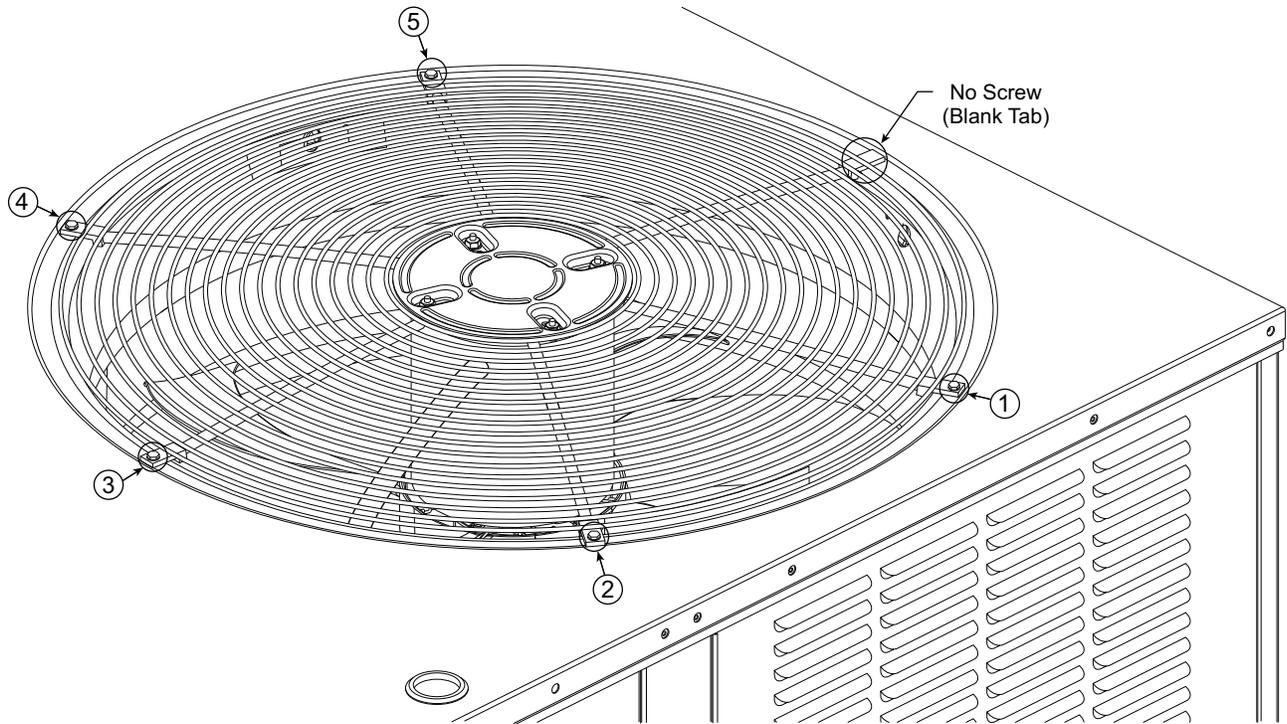

Fig. 27 — Condenser-Fan Assembly — Screw Pattern Sequence
6. Replace condenser-fan assembly. When replacing the condenser-fan assembly follow the screw pattern sequence shown in Fig. 27. The screws must be replaced in the sequence shown in the figure.